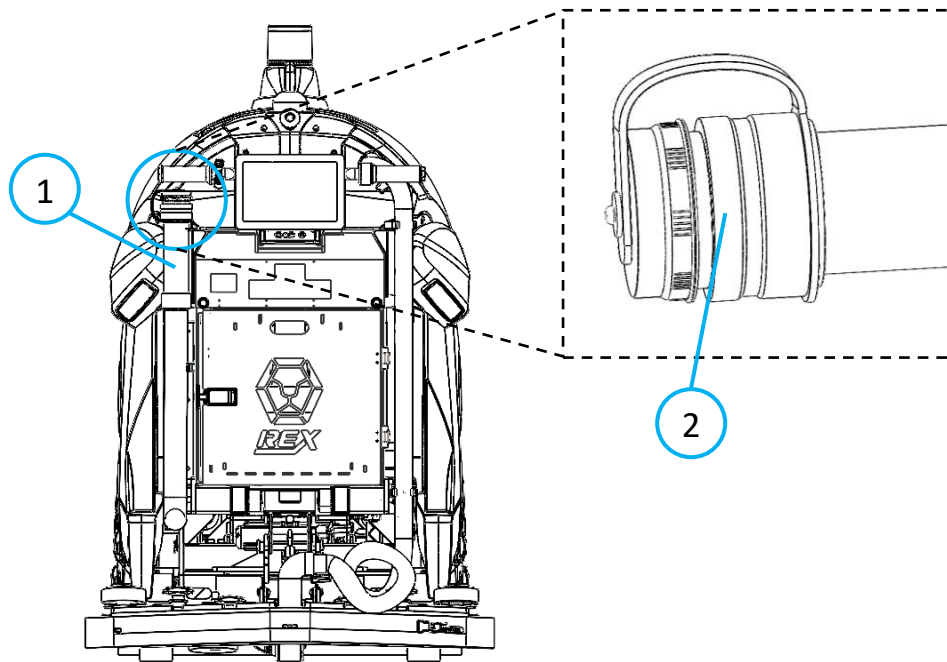

Fig. 1
1. If recovery tank has fluid, use the manual drain hose to drain fluid (Fig 1 – 1).
2. Point hose towards a drain or appointed disposal location, uncap the hose (Fig. 1 – 2).